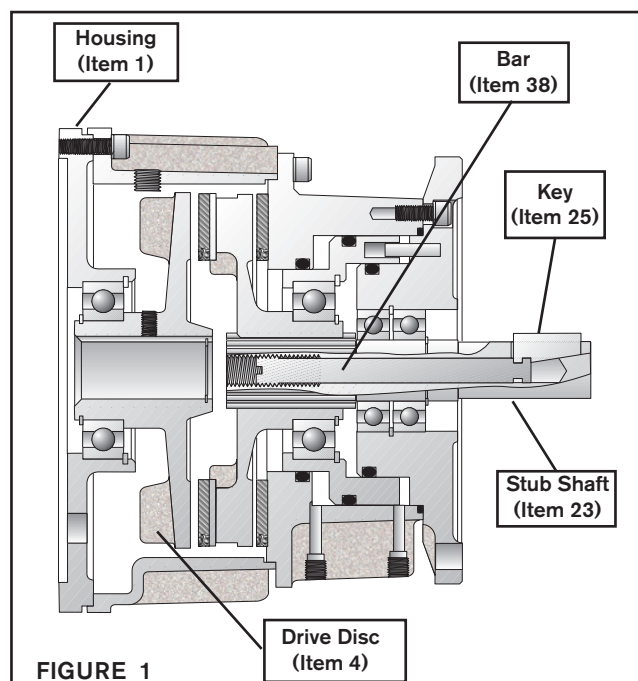

FIGURE 1
1. Coat the threads of the Bar (Item 38) with Loctite® 242; then, thread the Bar into the Stub Shaft (Item 23) until the end of the Bar is visible in the keyway slot of the Stub Shaft (See Figure 1).
2. Apply a thin film of Never-Seez® to Key (Item 25) (See Figure 1).
3. Place the Key (Item 25) into the keyway of the Stub Shaft (Item 23) (See Figure 1).
6. Tighten the Bar (Item 38) to 5 Ft. Lbs. [6.8 N•m] on Models 625 and 875 or 11 Ft. Lbs. [14.9 N m] on Model 1125 to firmly seat the Key (Item 25) in the gear reducer (See Figures 1 and 2).
10. Align the tapped hole in the Drive Disc (Item 4) with the hole in the Housing (Item 1) (See Figure 1).